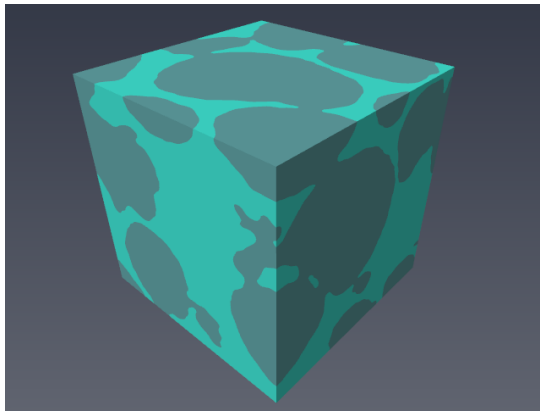

Figure 5.12: Surface generated from the two phases label image.
- Attach a *Surface View* display module to the resulting surface (see Figure 5.12).